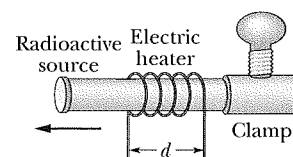

Fig. 18-30 Problem 20.
•20 In a certain experiment, a small radioactive source must move at selected, extremely slow speeds. This motion is accomplished by fastening the source to one end of an aluminum rod and heating the central section of the rod in a controlled way. If the effective heated section of the rod in Fig. 18-30 has length $d = 2.00\text{ cm}$, at what constant rate must the temperature of the rod be changed if the source is to move at a constant speed of 100 nm/s?